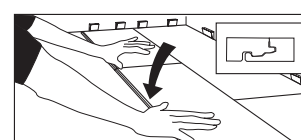

Figure 10
- Mark the last piece, cut and install. After all boards in the row are installed, press or walk all boards flat to the subfloor to begin the next row (Fig. 10).